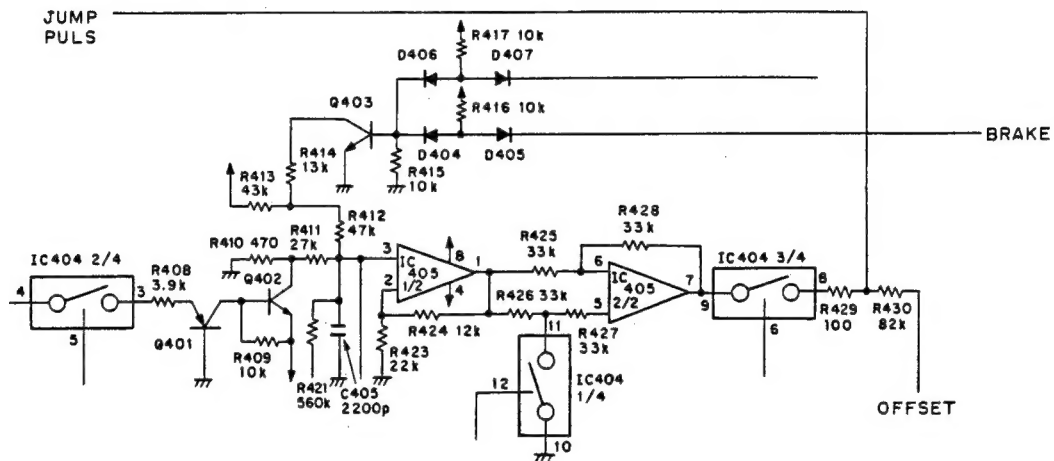

Fig. 5-4 Jump pulse generator circuit
3) Jump Pulse Generator Circuit (Fig. 5-4)